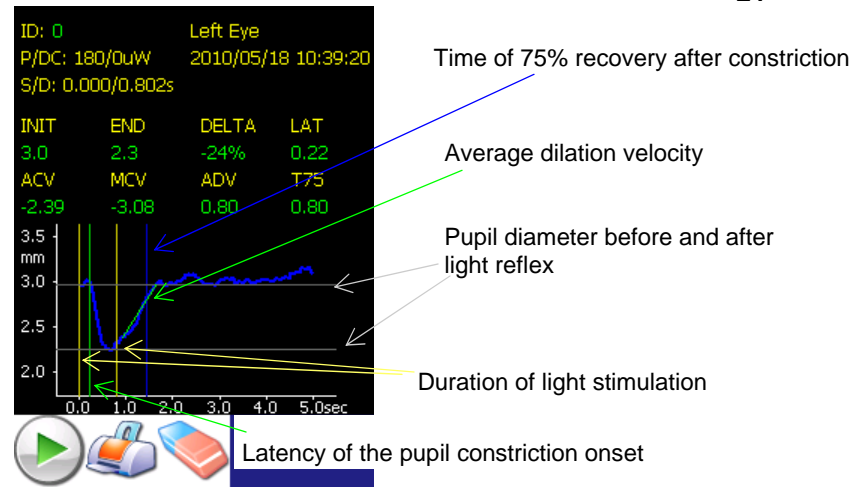

Figure 3.5
When the analysis is complete, the results screen will display as shown in Figure 3.5.
- **ID**, the identification code of the subject measured (for example 0 in Figure 3.5); which eye was measured (Left in the example), and the date and time of the measurement. Remember that if variables are displayed in red, then the measurement was affected by a blink or a similar artifact that occurred during the period of the pupillary light reflex. In this case, the measurement data should not be trusted and the measurement should be repeated.
- The **intensity, onset** and **duration** of the light stimulation. In the example shown in Figure 3.5, the light stimulation intensity (*P*) was 180 micro Watts with a (*DC*) background level of 0 micro Watts. The onset of the light stimulation (*S*) was at 0 seconds for a total duration (*D*) of 0.802 seconds. The onset and duration of the light stimulation is also represented by two yellow vertical lines superimposed over the pupil plot.
- **INIT** and **END** represent the diameter of the pupil before the reflex (**INIT**=3.0 mm in this example) and just at the peak of the reflex (**END**=2.3 mm) respectively. They are given in **millimeters** and are represented by two horizontal gray lines superimposed over the pupil plot (Figure 3.5). The variable **DELTA** is the amount of the constriction ($(\text{INIT}-\text{END})/\text{INIT}$) as a percent.
- **ADV** is the **dilation velocity** (given in **millimeters/second**) and represents the average pupillary velocity, when, after having reached the peak of the constriction, the pupil tends to recover and to dilate back to its initial resting size. Pupillary recovery after a light reflex constriction is usually characterized by an initial and more rapid phase followed by a much slower converging movement. The dilation velocity reported here refers to the initial and stronger recovery and is indicated in the graph (see example in Figure 3.5) by a green line fit to the corresponding dilation phase of the pupil profile. If a blink occurred during the dilation, this variable might not be displayed.
- **T75** is the total time taken by the pupil to recover 75% of the initial resting pupil size after it reached the peak of constriction. It is given in **seconds** (0.80 in the example) and is represented by a vertical blue line superimposed on the pupil plot (Figure 3.5). If a blink occurred during the dilation, this variable might not be displayed.
If the level of the light stimulation is equal to the background level, then there will be no pupil reflex. All of the dynamic variables described in Figure 3.5 are omitted. Instead, the mean and standard deviation of the pupil diameter evaluated over the entire duration of the experiment are provided in the results page.
The subject record currently displayed in the results window (Figure 3.5) can be printed by activating the short menu bar at the bottom of the results page (Figure 3.5) with a press of the down arrow key and then selecting the printer icon.
All records corresponding to the ID specified in the Browse catalog window will be displayed (as in Figure 3.5). You can review each single record using the right and left arrow keys on the directional keypad (Figure 3.1). Each time a record is displayed in the LCD, you can decide to print it by selecting the printer icon on the menu bar located at the bottom of the record display.